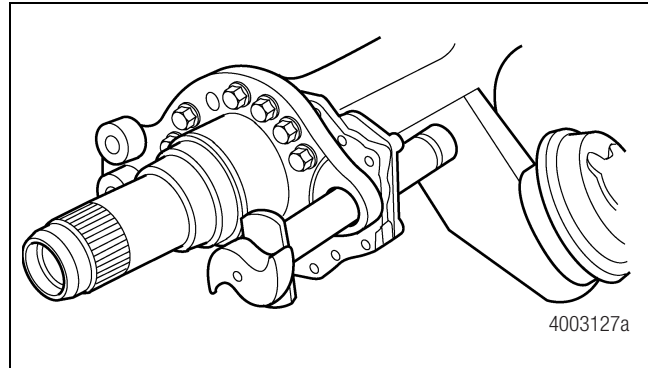

Figure 5.12
5. Place the cam head washer onto the camshaft. Apply O-617-A or O-617-B chassis grease to the camshaft bushings and journals. Install the camshaft through the spider and bracket so that the camshaft turns freely by hand. Figure 5.12.